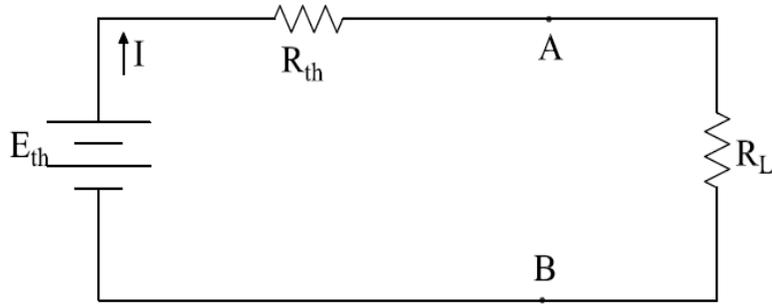

Fig.2 The equivalent Thevenin circuit with R_L
4. R_L is now connected across terminals A and B from where it was temporarily removed earlier. As shown in Fig.2, the current flowing through R_L is given by: $I = E_{th} / (R_{th} + R_L)$